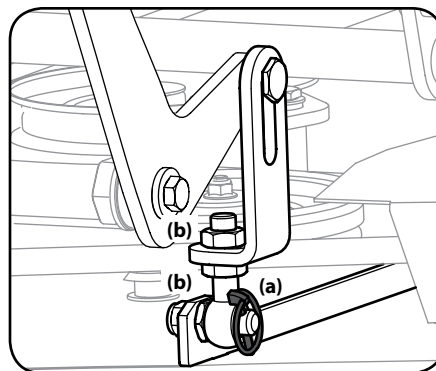

Figure 4-8
3. Adjust the eyebolt (a) at the left front of the deck so that the blade-to-ground height at the right outside blade tip matches that of the left outside blade tip. This is done by loosening the jam nuts (b) on the eyebolt (a) and tightening the upper jam nut (b) to raise the deck and loosening the jam nut (b) to lower the deck. The right outer blade tip height is fixed by the right, front eyebolt (a) so you must adjust the left outer tip to match it. See Figure 4-8.
3. Loosen the jam nuts (b) at the rear left and right of the deck eyebolts (a). Refer to Figure 4-8.